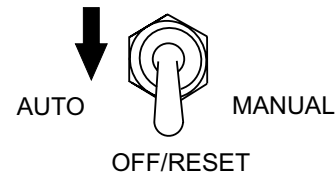

Figure 38. MPEC Control Switch (Off/Reset)
3. Place the **MPEC Control Switch** (Figure 38) to the **OFF/RESET** position.